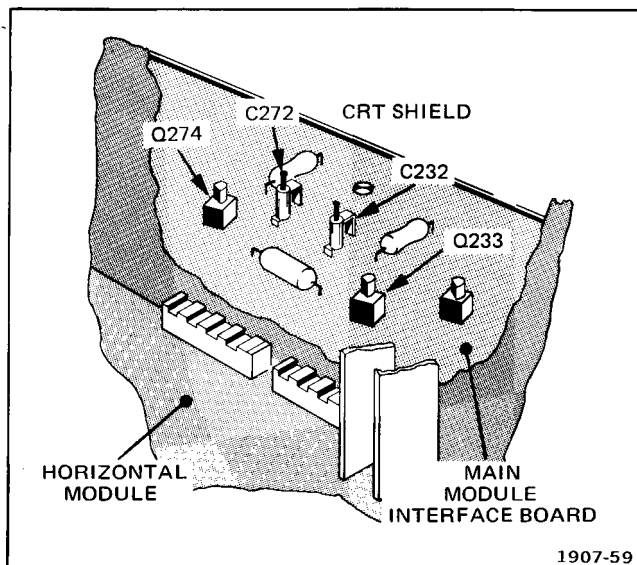

Fig. 6-7. C232 and C233 adjustment locations.
- e. ADJUST—C232 and C272 (on Main Module, see Fig. 6-7) for 1 time-mark cycle/2 divisions. When properly adjusted, screws on these trimmer capacitors should be out approximately equal distance.